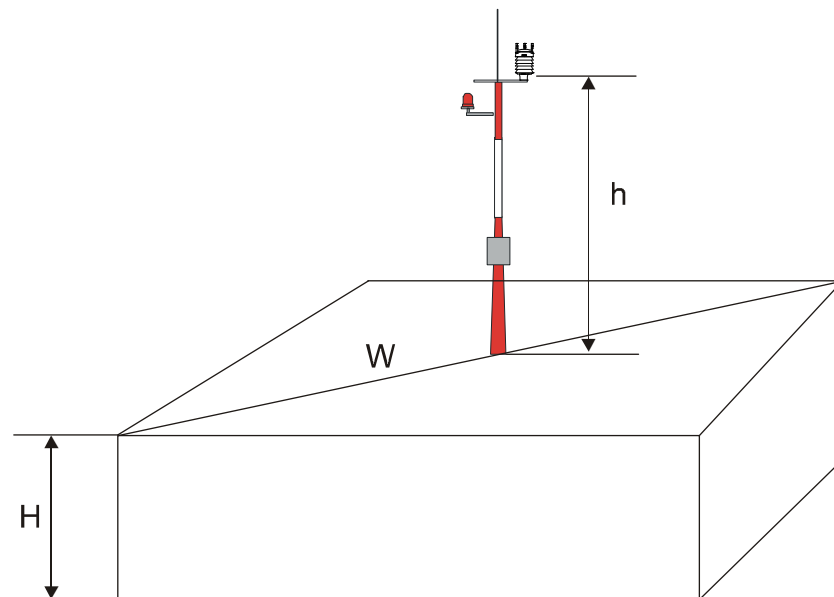

Figure 11 Recommended Mast Length on Top of a Building
The recommended minimum length (marked with the letter h in Figure 11 on page 33) for the mast that is installed on top of a building is 1.5 times the height of the building (H). When the diagonal (W) is less than the height (H), the minimum length of the mast is $1.5 W$.